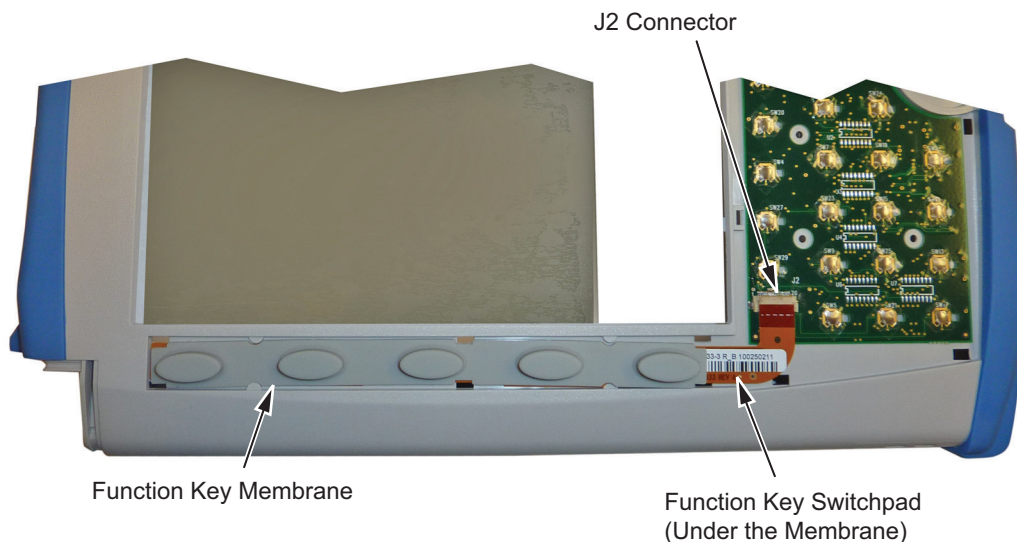

Figure 5-11. Keypad PCB
During reassembly confirm that the socket connector on the Main PCB aligns with the connector pin on the Keypad PCB shown in Figure 5-11 on page 5-10.
5. Disconnect the function key flexible switch pad from J2 of the keypad PCB by carefully lifting the locking tab on connector J2 to release the flexible switch pad (Figure 5-11).